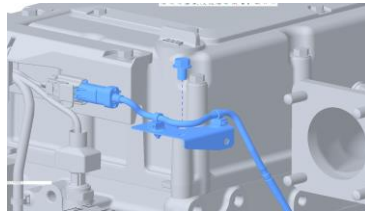
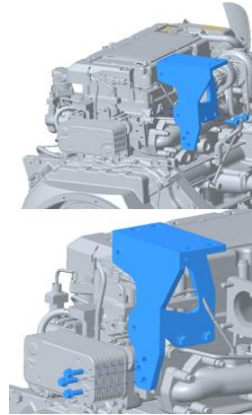

Figure 2
Figure 3
2. Unplug exhaust temperature sensor and unbolt sensor harness mounting bracket to mount ATD mount bracket (7) as shown in figure 2. Align the ATD mount bracket (7) and assemble onto the exhaust flywheel side using M12X30 (24) and M10X25 (20) bolts as shown in the figure 3. Reinstall the bracket and reconnect the harness.